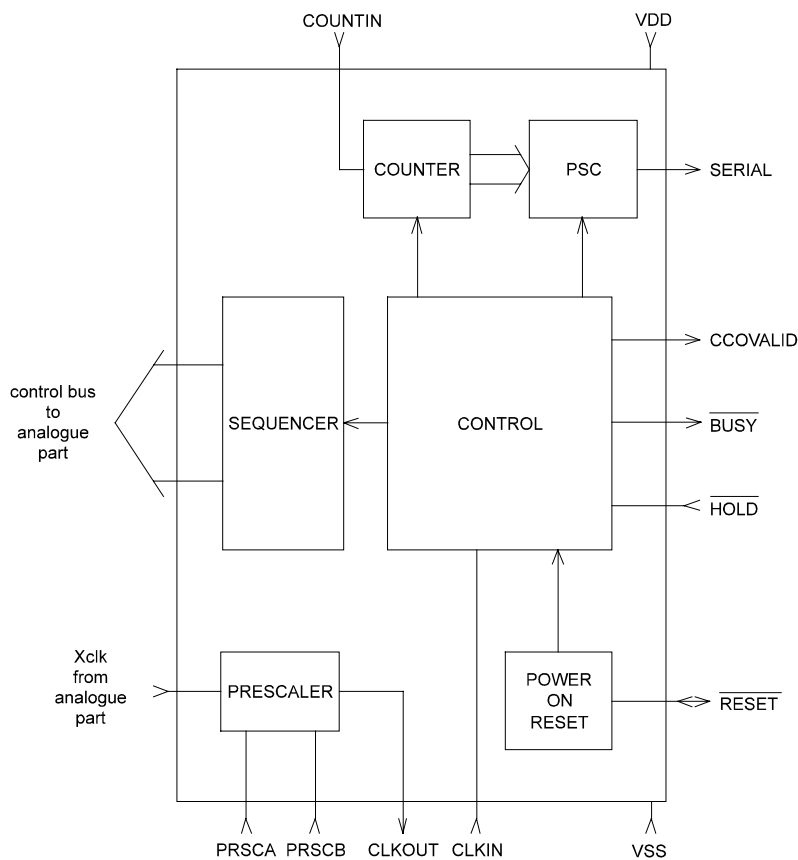

Figure 5. Block-diagram of the MCM100 digital part.
- The digital part (of which a block diagram is given in Figure 5) controls the analogue part via the control bus. There are 22 possible measurement states. The duration of every state is dependant on the clock frequency (CLKIN). Every state consists of 122 clock cycles.
The digital part contains six blocks that will be described in this section (see Figure 5).